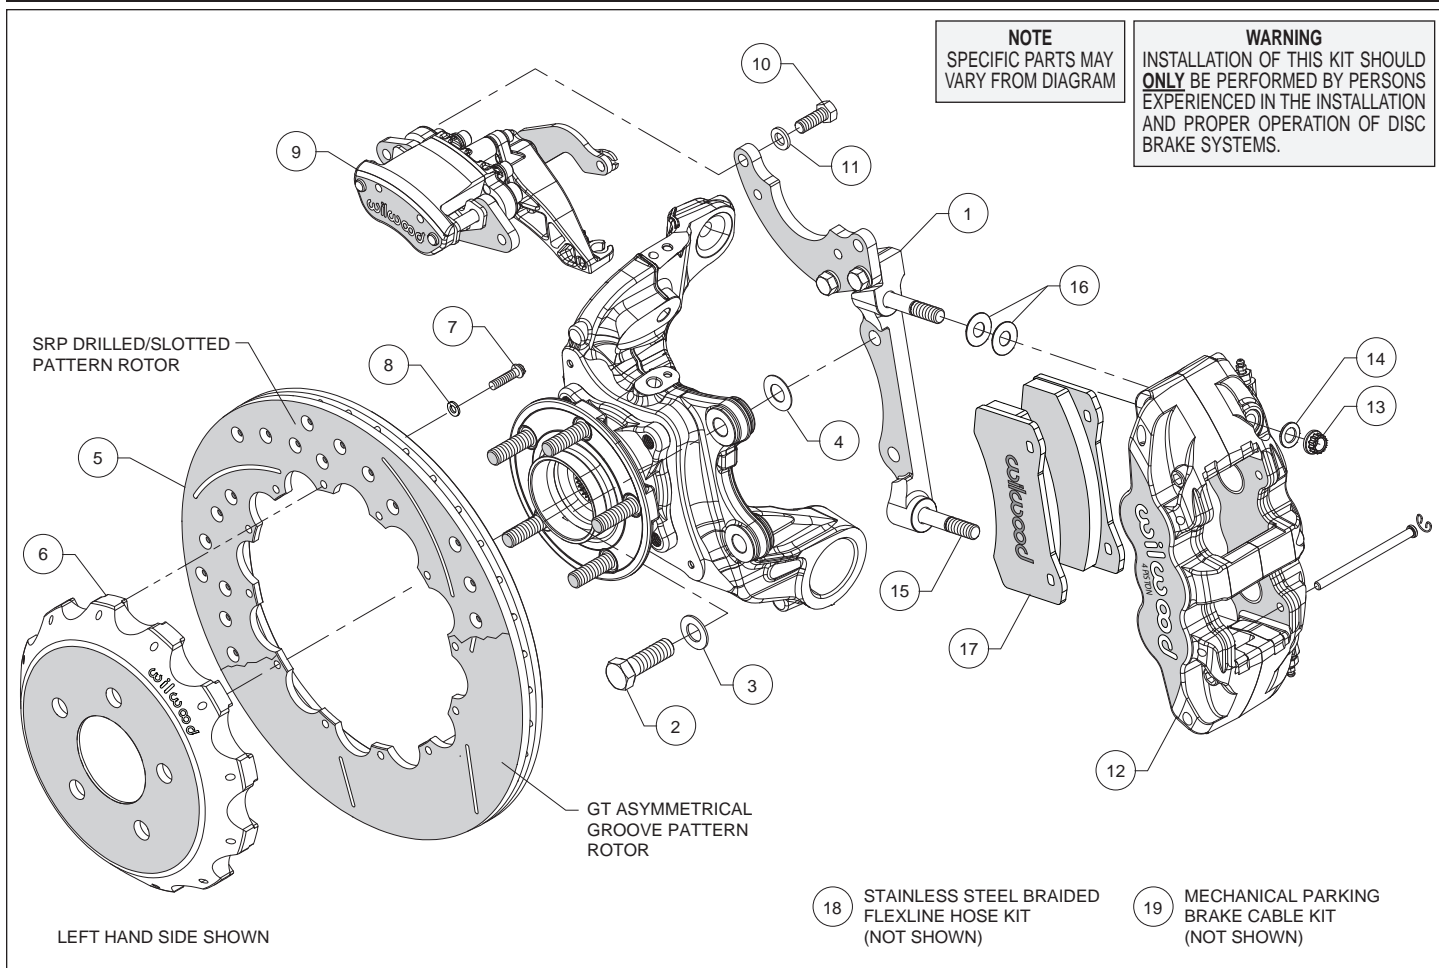
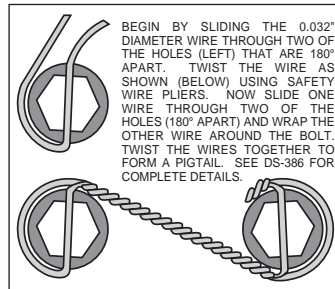

Figure 1. Typical Installation Configuration
Figure 3. Safety Wire Diagram
**Assembly Instructions** (numbers in parenthesis refer to the parts list and Figure 1 on the preceding pages):
- The caliper mount bracket (1) should initially be installed with clean, dry threads on the mounting bolts. Orient the bracket as shown in Figure 1, and Photo 1, and install using bolts (2) and washers (3). Initially place one .029" thick shim (4) on each bolt between the bracket and upright, Figure 1. Temporarily tighten the mounting bolts. **NOTE: The bracket must fit squarely against the mount bosses on the upright.** Inspect for interference from casting irregularities, machining ridges, burrs, etc. Later, after the caliper alignment has been checked, the mount bolts will be secured using red *Loctite*® 271.
- Orient the rotor (5) and the hat (6) as shown in Figure 1 and Photo 2. Attach rotor to hat using bolts (7) and washers (8). Using an alternating sequence, apply red *Loctite*® 271 to the threads, and torque to 155 **in-lbs**. For an added measure of security, the bolts may be safety wired using standard 0.032 inch diameter stainless steel safety wire as shown in Figure 3. Please refer to Wilwood's data sheet DS-386 (available at [www.wilwood.com/Pdf/DataSheets/ds386.pdf](http://www.wilwood.com/Pdf/DataSheets/ds386.pdf)) for complete safety wire installation instructions.
- Lubricate the caliper mounting studs (15) with lightweight oil. Initially place two .030" thick shims (16) on each stud as shown in Figure 1 and Photo 4. Mount the caliper (12) onto the bracket (1) using lock nuts (13) and washers (14), Figure 1. Temporarily tighten the lock nuts and view the rotor through the top opening of the caliper. The rotor should be centered in the caliper, Photo 5. If not, adjust by adding or subtracting shims (4) between the bracket and the mounting bosses. Always use the same amount of shims on each of the two mounting bolts. Once the caliper alignment is correct, remove the bracket mounting bolts one at a time, apply red *Loctite*® 271 to the threads, and torque to 77 ft-lb.
- Remove the two pad retaining pins from the caliper (12) by carefully popping out the pin retaining clips and sliding out the pins. Insert the brake pads (17) into the caliper from the bottom, Figure 1 and Photo 6. With the friction material facing the rotor, secure the brake pads in place with the pad retaining pins and clips, Photo 7. Reinstall the caliper onto the caliper mounting bracket and temporarily tighten the lock nuts. Check that the top of the brake pad is flush with the outside diameter of the rotor, Photo 8. If not, adjust by adding or subtracting shims (16) between the caliper and the bracket. After the caliper pad height is set, torque the caliper lock nuts (13) to 47 ft-lb.
- Mount the parking brake caliper (9) onto the top section of the caliper mounting bracket (1) using bolts (10) and washers (11), as shown in Figure 1 and Photo 9. Apply red *Loctite*® 271 to bolt threads, and torque to 30 ft-lb